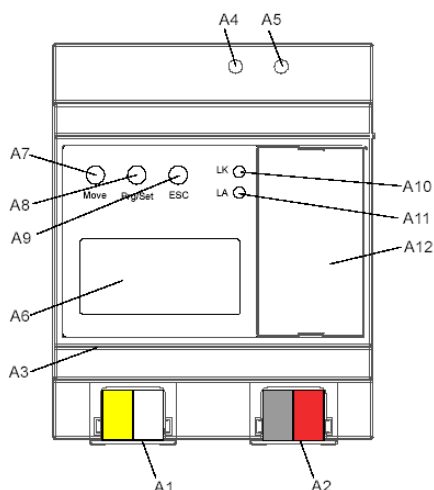

Figure 1: Location of the display and operator elements
- Unplug the Ethernet patch cable from the RJ45 socket (Figure 1, A3).
- Remove the yellow-white bus connector terminal (Figure 1, A1) from its socket.
- Remove the black-red bus connector terminal (Figure 1, A2) from its socket.